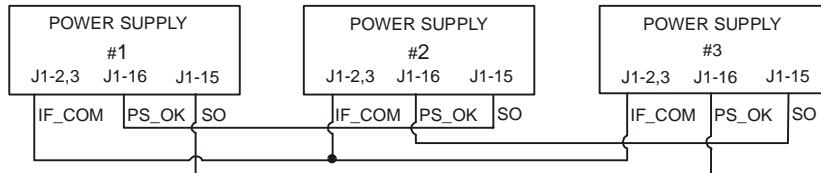

Fig.5-6: Daisy-chain connection
### 3. Daisy Chain Connection: (See Fig. 5-6)
6. Connect J1-2 (or J1-3) common to all supplies (See Fig. 5.6).
Fig. 5-6 shows connection of three units, however, the same connection method applies to systems with a larger number of units.